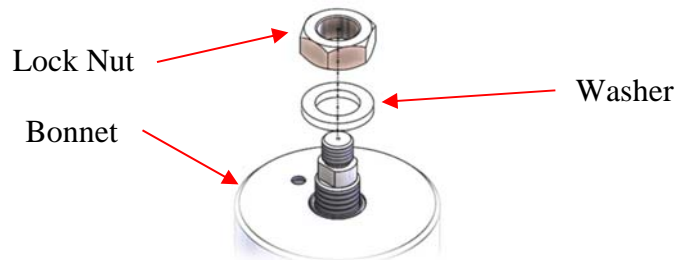

Figure 29: Top Entry Upper Bonnet Components
11. Remove the lock nut and washer. See Figure 29.